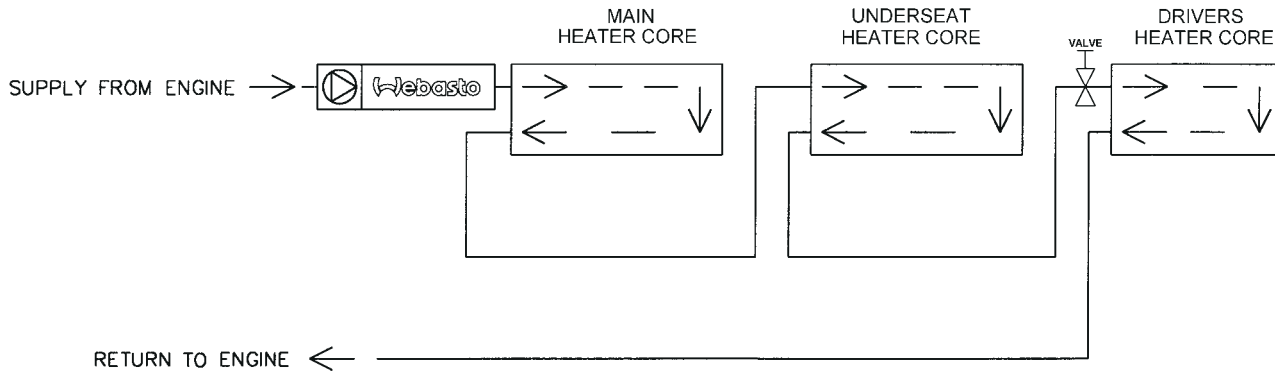

Fig. 401: Series Plumbing Circuit (Shown with heater installed)
#### A: Heater Cores arranged in Series (fig. 401)
1. Identify the type of system you are working with to determine the appropriate type of installation as shown in figures 401, 402 or 403.
2. Connect heater into the system according to the examples shown in figures 401, 402 or 403.